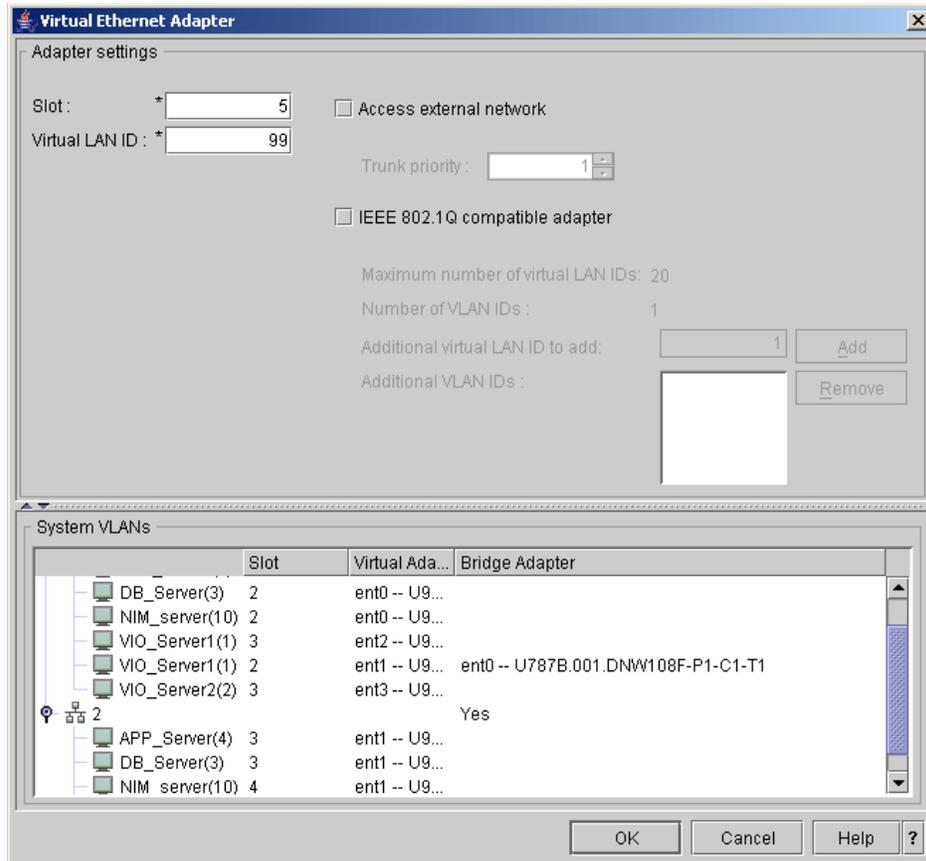

Figure 4-19 Virtual Ethernet Slot and Virtual LAN ID (PVID) value
- b. Click the **Create Adapter** button, and then input the value for Virtual LAN ID, as shown in Figure 4-19 (the value for Slot will be filled in automatically). The use of the default value is sufficient). Click the **OK** button when done.